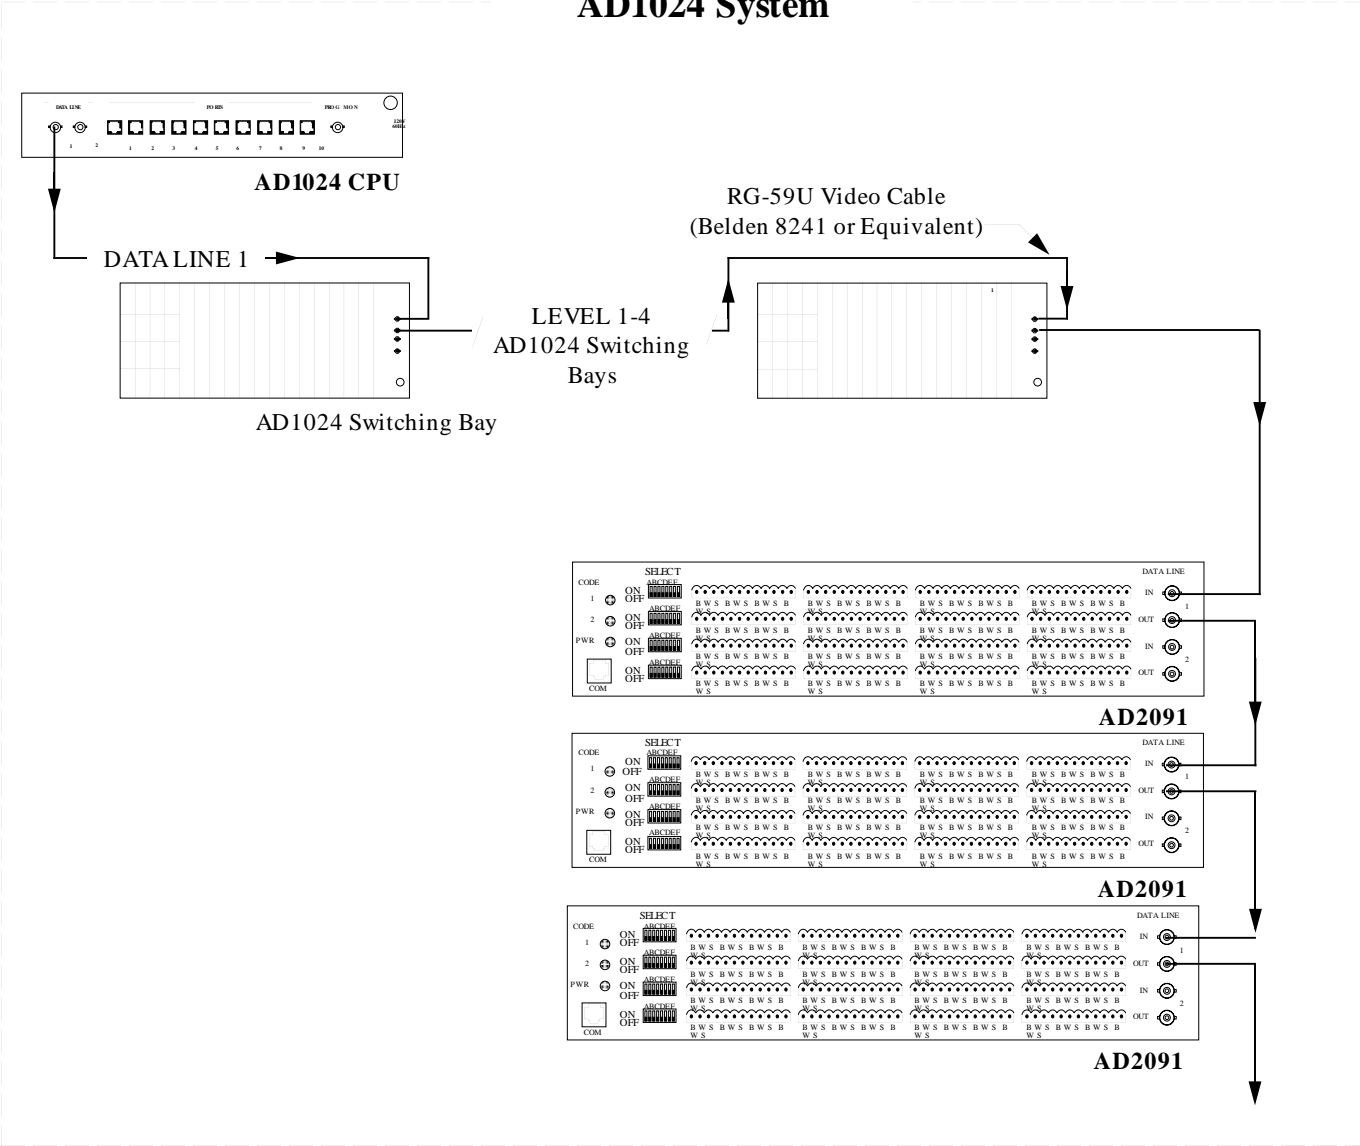

Figure 22 - AD2091 Code Generator Connections
DATA LINE1 routes the high speed data signals from the AD1024 CPU, through the AD1024 Matrix Switching Bays, to the AD2091 Code Generator (see Figure 22).
1. Connect a video cable from the AD1024 CPU DATA LINE1 terminal to the DATA LINE1 **IN** terminal of the **FIRST** AD1024 Switching Bay in level 1 (see Figure 22).
3. Cascade additional AD2091 units by connecting video cable from the DATA LINE1 **OUT** terminal of the first AD2091 unit to the DATA LINE1 **IN** terminal of the next AD2091 unit in the system (see Figure 22).